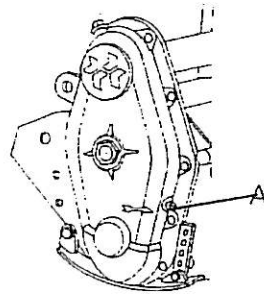

Fig. 2
1. The gearbox filled to the level plug (A) (fig. 2) Capacity: 1l. Use SAE 90 oil.